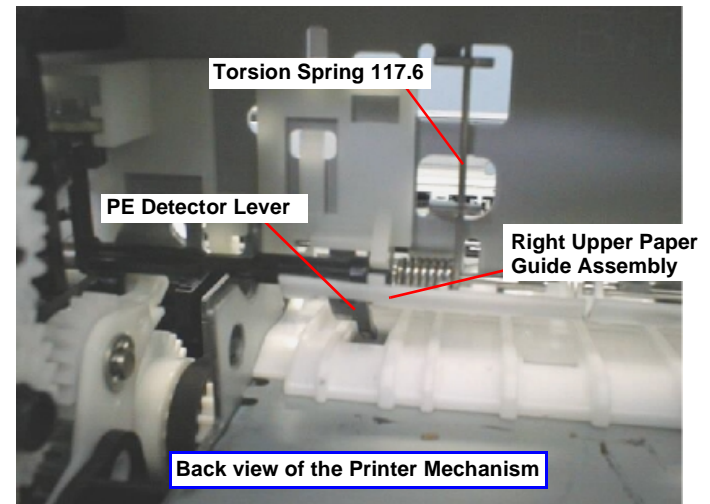

Figure 4-65. Installing the Right Upper Paper Guide Assy.
- When the Right Upper Paper Guide Assembly is installed on the Top Frame with a Torsion Spring 117.6, ensure that the PE Detector Lever is set in the square cut off area in the Right Upper Paper Guide. Insert the Right Upper Paper Guide Assembly from the front so you can set the PE Detector Lever in the square cut area in the Right Upper Paper Guide. Refer to Figure 4-65.
During assembly, make sure that the tip (sensor part) of the detector lever is in the hole in the Right Paper Guide Assembly. Refer to Figure 4-65.